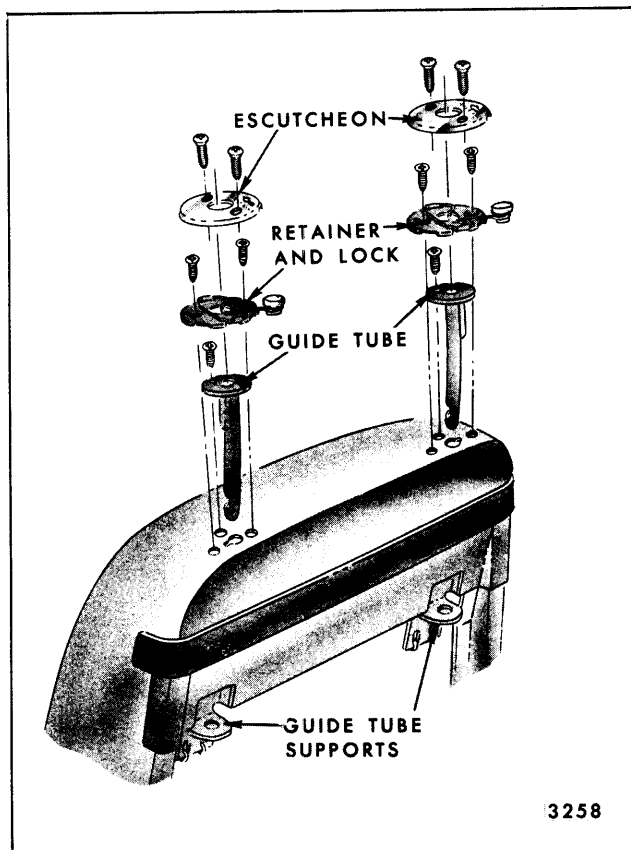

Fig. 15-52—Head Restraint - Strato Seats
1. Remove head restraint from seat back. Remove escutcheon attaching screws and remove escutcheon (Fig. 15-52)
2. Remove two screws securing retainer to seat back (Fig. 15-52).
5. Remove screw securing upper flange of guide tube to seat back frame (Fig. 15-52); then, pull tube out of supports.